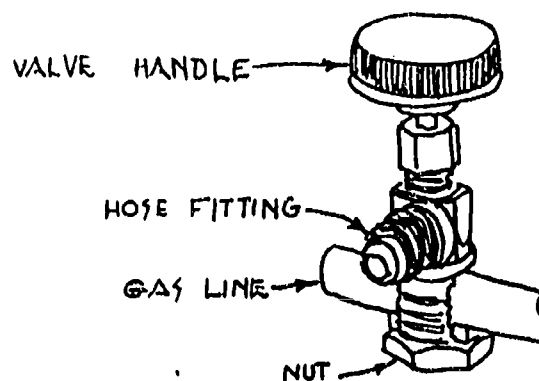
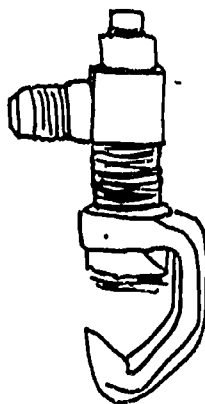

Fig. 2
Fig. 3
Figure 2 shows a piercing valve fixed to a copper tube. Once this valve is installed, it will be left on the unit. Figure 3 shows another type of piercing valve.
- f. Figure 2 shows a step by step method, to check for power as they would be made. The dotted lines show where to place the leads of the voltmeter. Unit must be plugged into power source for this test. If all switches are closed, voltage across any pair of the 7 numbered points would indicate no trouble between the power source and the points being tested. A no voltage reading would indicate trouble in the control, somewhere between the two points being tested and the power supply. NOTE: A jumper wire could be used across the control switch in doubt to double check it.
Step #2 in Figure 2 would show voltage for a short period of time, and then no voltage; this would be intermittent, and would indicate that the compressor is stuck, and must be replaced. Test 2A, Figure 2 would indicate the same thing.